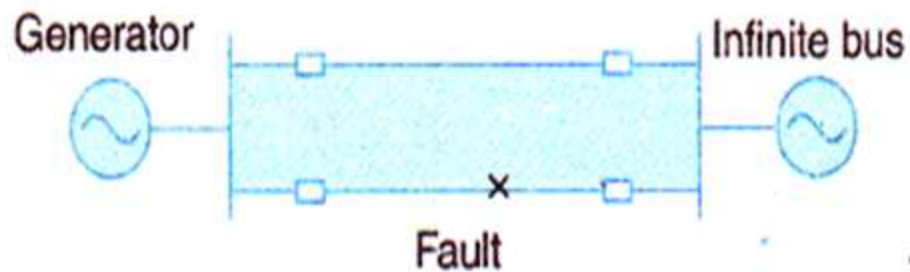

Fig. 17.9 Parallel feeder.
- As shown in Fig. 17.9, it is a parallel feeder fed from one end and at the other end is the infinite bus. The power angle curve corresponding to the healthy condition is given by curve *A* in Fig. 17.10.
Transient Stability limit for system in Fig 17.9
- Curve A in Fig. 17.12 represents the power angle curve corresponding to healthy condition of system in Fig. 17.9. Curve B represents corresponding to fault on one of the two lines and fault allowed to exist for some time. Curve C corresponds to the situation when the faulted line is removed.